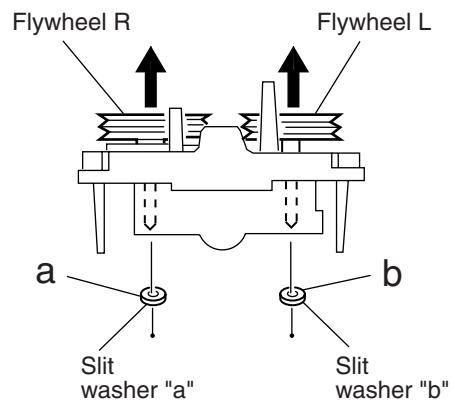

Fig. 8
■ Removing the flywheel (See Fig. 8 & 9)